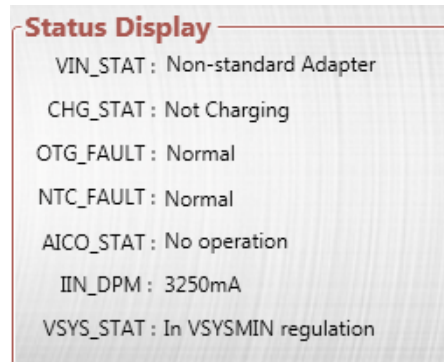

Figure 29: Operation Status Display
- MP2733 operation status monitoring (see Figure 29).